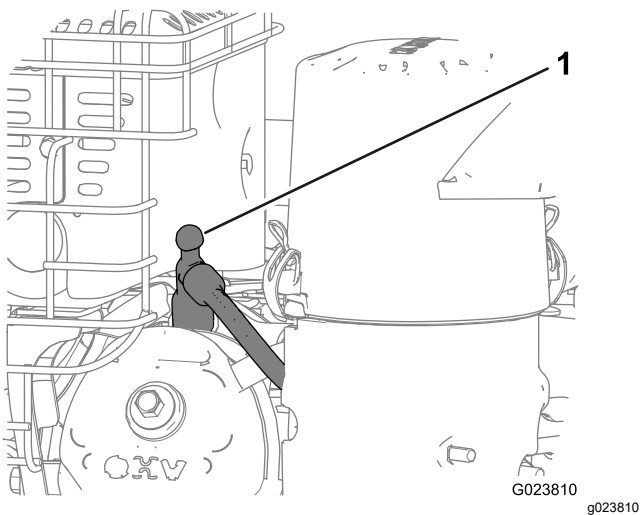

Figure 22
3. Disconnect the spark-plug wire from the spark plug and keep the wire away from the plug, to prevent accidental starting (Figure 22).